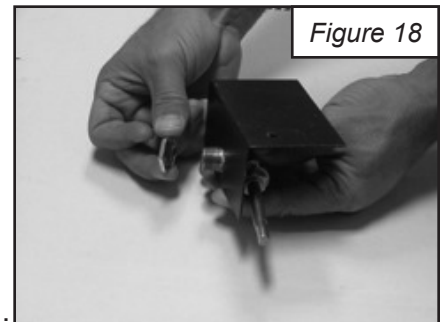

Figure 18
2. Then secure the heat shield in place with the lock nut (Part # 16). (See Figure 18)
To light the Burner, turn the Control Knob counter clockwise from the Pilot Position to the On Position (Figure 18). In this position, both the Pilot Burner and Main Pan Burner will be lit.